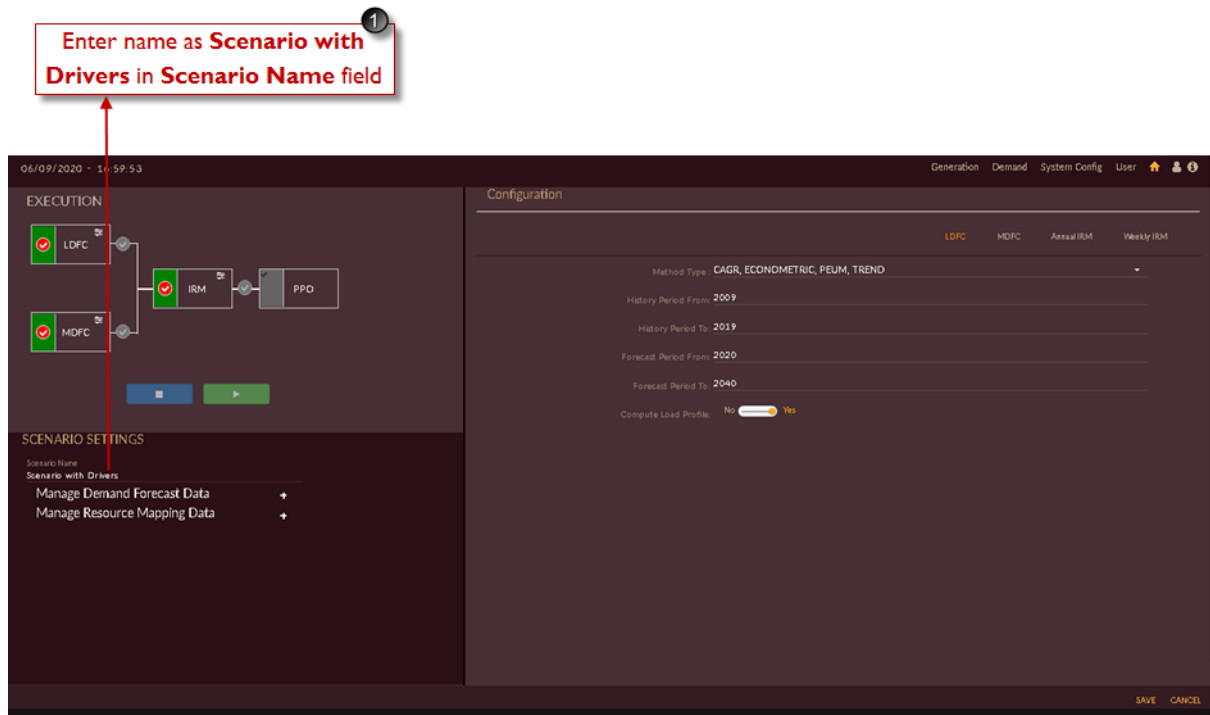

Figure 97. Creating Scenario with Drivers
1. Set scenario name as “**Scenario with Drivers**” as shown in Figure 97.